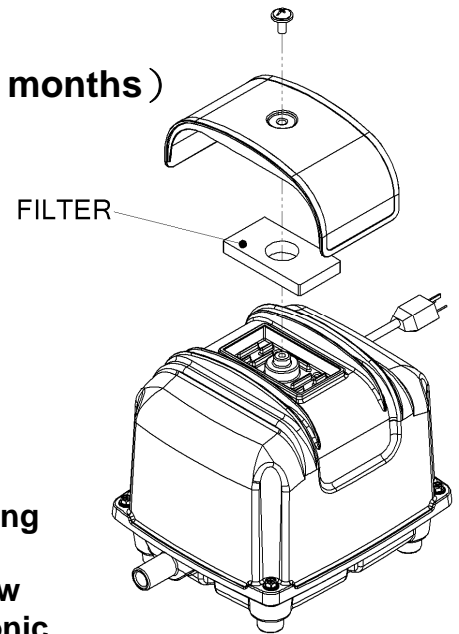

Figure 1
- Loosen the screw on top. (As shown in Figure1)